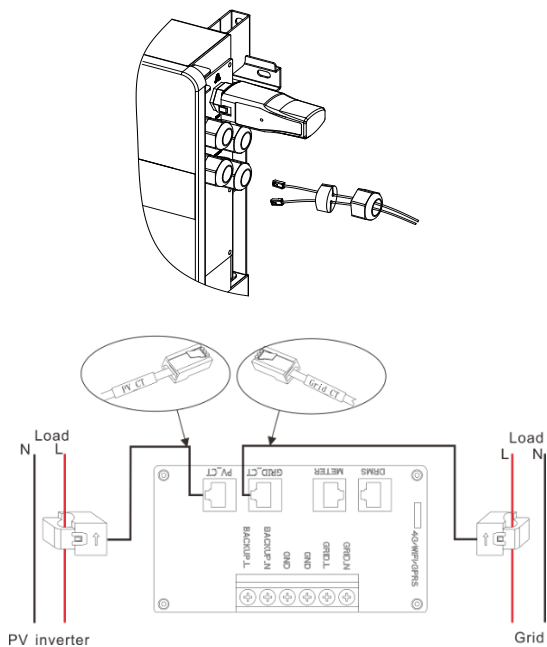

Fig. 4.13 CT installation
- 3) Lead the Live of the Grid through the Grid\_CT (refers to Fig. 4.13).
- 8) Lead the Live of PV through the PV\_CT (refers to Fig. 4.13).